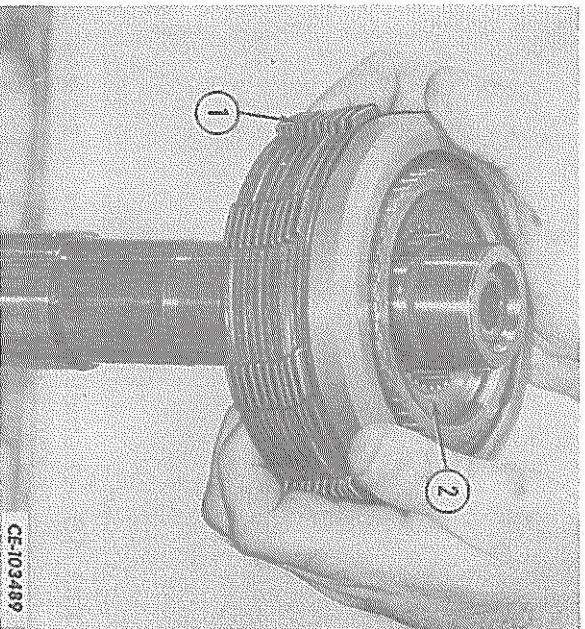

FIG. 48 — Removing the Clutch Hub Assembly
36. Grasp the outside diameter of the steel clutch plates (1, Fig. 48) and lift off the clutch hub assembly.
NOTE: The hub assembly must be lifted straight off. Be careful not to cock the hub (2, fig. 48) on the shaft splines as the return springs in the hub may become twisted.